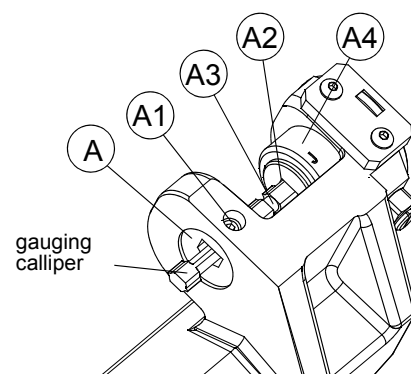
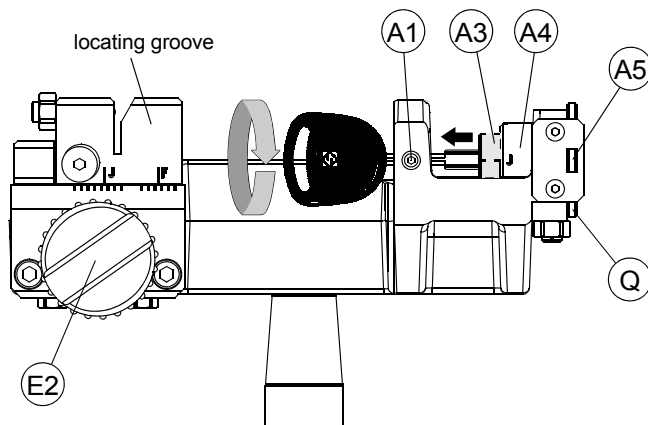
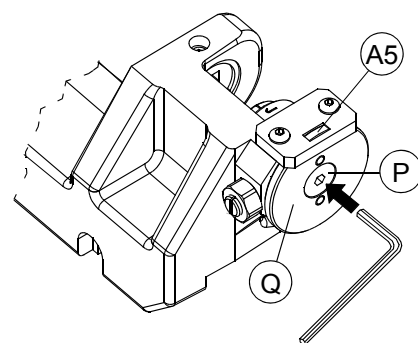

Fig. 13
Fig. 16
Fig. 17
- 2) insert the tip of the gauging calliper (provided) into the rotating clamp (A), push up against the tip stop (A2) and lock in the calliper by tightening the grub screw (A1) (fig.13). The calliper must be positioned horizontally as shown in the illustration; if adjustment is necessary use the hex wrench provided to turn the screw (P) (fig.17, page 13) so that the drum (A4) turns clockwise.
- 2) hold the key head firmly and use the left hand to loosen the screw (P) (fig.17) with the wrench provided.
- 3) exert slight pressure in the direction of the arrow (fig.17) and unscrew the screw (P) slowly so that the cylinder (A3) protrudes a few millimetres (fig.16).
- 5) let the cylinder (A3) withdraw and press on the key head to tighten screw (P). The cylinder must return freely into its seat. If necessary, seek its proper position by turning the key slightly in the two directions.
- 6) turn the key 90° to pull the coded angle device. The letter visible on the drum (A4) will now be different, as will the colour of the numbers in the window (A5).
- 3) set the cutting position on the coded spacing device by means of knob (E2) (fig.16). Exert pressure on the head to turn the key and turn the angle counter (Q) (fig.17) until the required code is visible in the window (A5).
- 4) start the machine with the motor/brush start switch (D).
- 5) take the carriage towards the cutting tool, ensuring that the tracer point enters the locating groove all the way (fig.16). When the cut has been made, move the carriage back and turn the key until the same code appears in the window (A5), after the number "1" has appeared. Repeat the cutting operation.